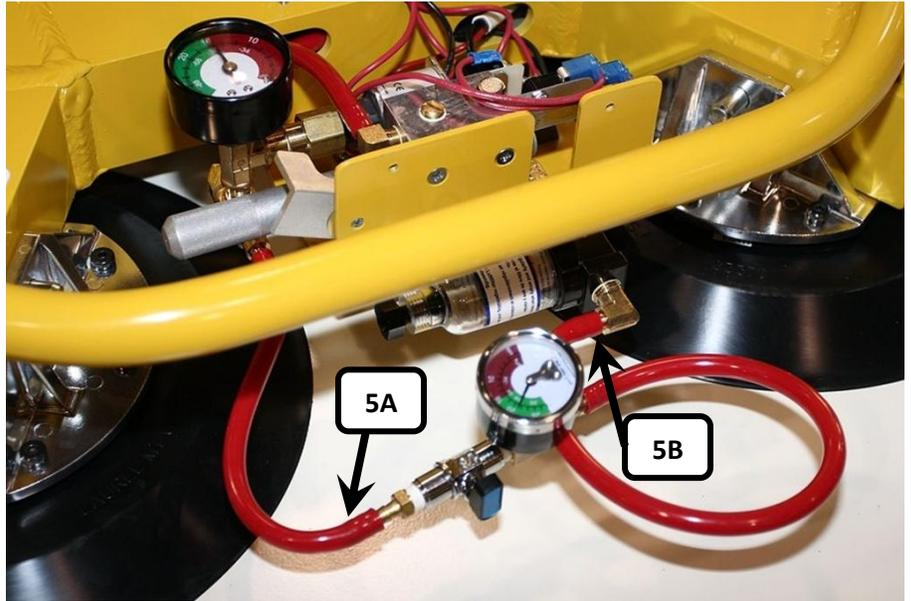

FIGURE 5
- 3) Attach a short piece of hose to the end of the ball valve with the vacuum gauge, and attach this hose to the filter (5B). Attach the other end of the ball valve to the original hose that was removed from the filter assembly. See **FIGURE 5**.